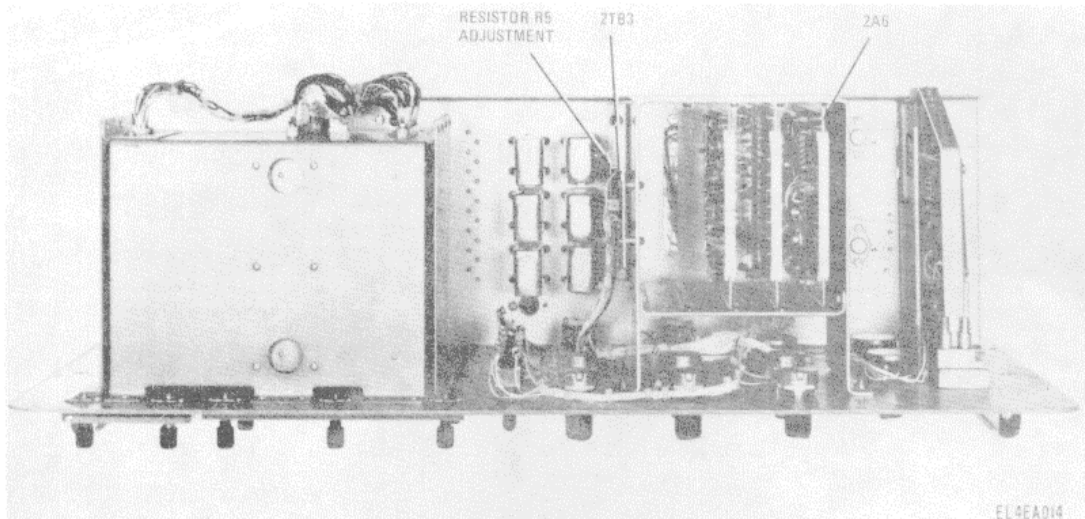
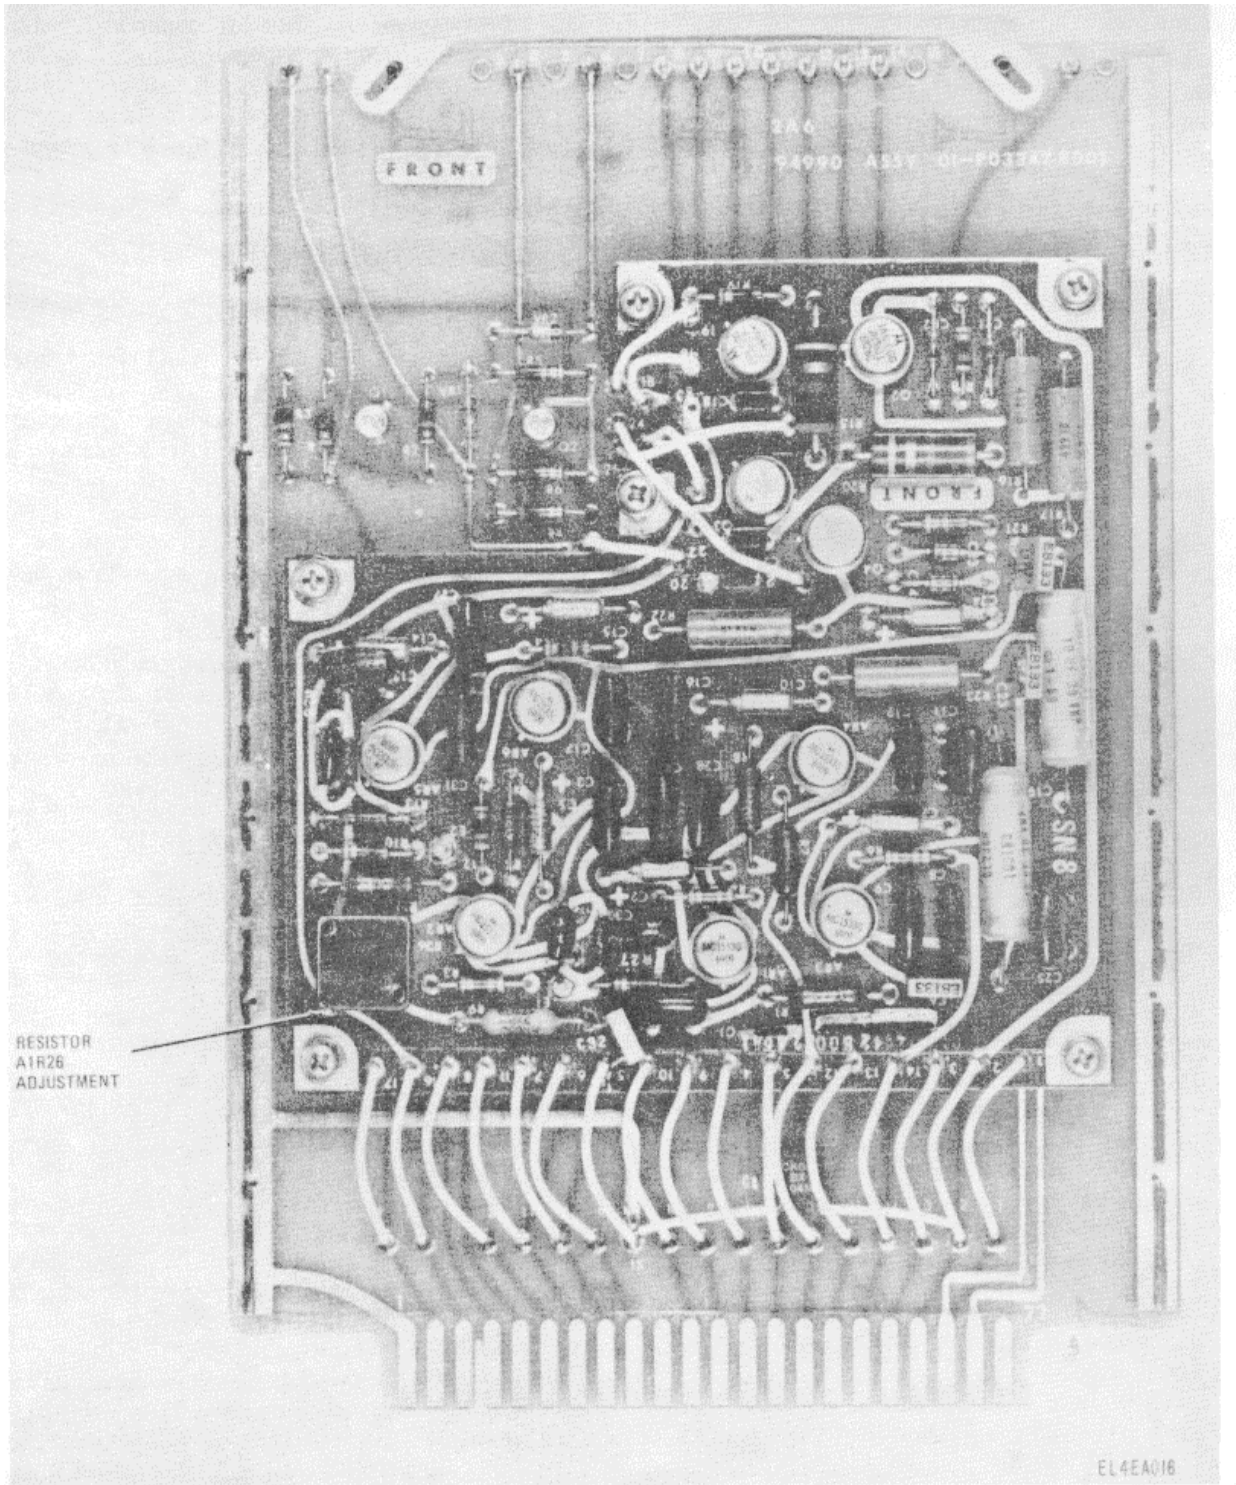

Figure 8. Test Set Subassembly MX-8639A1/APS-94D, terminal board 2TB3.
Figure 11. Offset amplifier 2A6, front of card.
(1) Refer to figure 8 and locate terminal board 2TB3 at the rear of the MX-8639A/APS-94D.
(2) Adjust resistor R5 (fig. 8) for a - 10 volt peak level negative-going sawtooth waveform on the oscilloscope.
- (1) Set the POWER switch of the MX-8639A/APS-94D to OFF.
- (2) Refer to figure 8 for the location of offset amplifier 2A6 at the rear of the MX-8639A/APS-94D.
(3) Extend offset amplifier 2A6 with Adapter, Test MX-8630/APS-94D.
(4) Set the POWER switch of the MX-8639A/-APS-94D to ON.
(5) Adjust resistor A1R26 (fig. 11) for a 0.00 ± 0.01 vdc indication on the digital voltmeter.